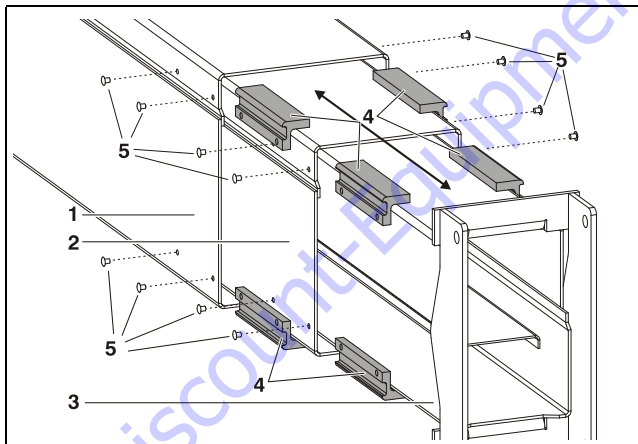

Figure 6-14. Mast Sections - Disassembly
2. Slide the inner-mid and the mount/inner mast sections into the outer-mid mast section. Allow the mounting holes for the bottom slide pads of the inner-mid mast section to be exposed. (See Figure 6-14.)
3. Push the bottom slide pads into the bottom of the outer-mid and the inner-mid mast sections, mount with the groove in the pad towards the side of the mast. Attach with the proper rivets. (See Figure 6-14.)